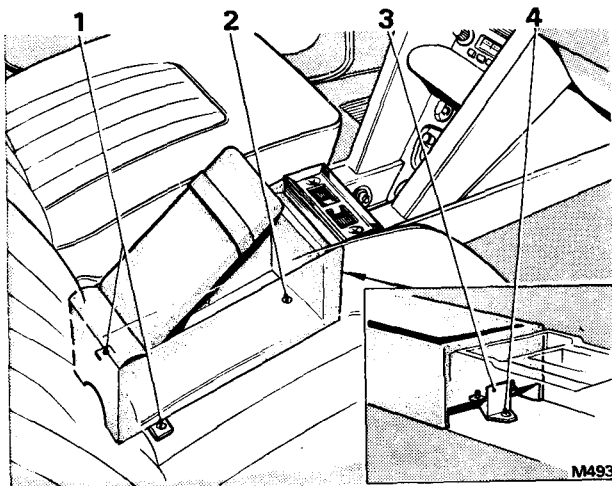

FIG. S115 METHOD OF SECURING THE STOWAGE BIN (4-Door Saloon and Long Wheelbase Cars after Car Serial Number 6000)
Late cars fitted with a centre console (see Figs. S115 and S116)
- 4.(a) **Radio mounted into the centre console** (see Fig. S115). If a padded lid is fitted to the stowage bin, lift the lid then remove the Phillips screws situated at the forward end of the stowage recess.